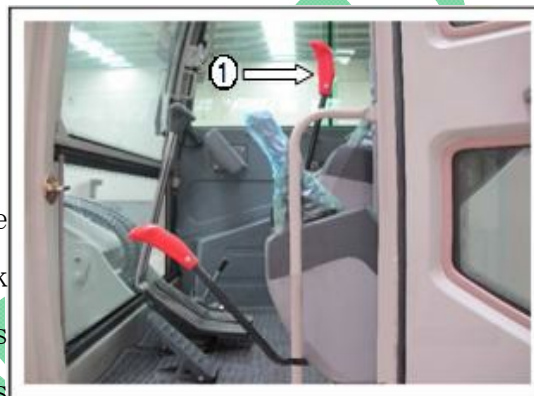

Fig 3—24
1. Draw back the safety pole ① (Fig 3—25), make the left operating device up to the lock position, when the safety pole (Fig 3—25) is on the lock position, all the working devices do not work